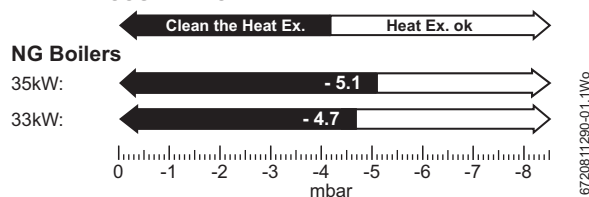

Fig. 76 Fan pressure readings
- ▶ The pressure will read negative, refer to the chart in figure 76 below.